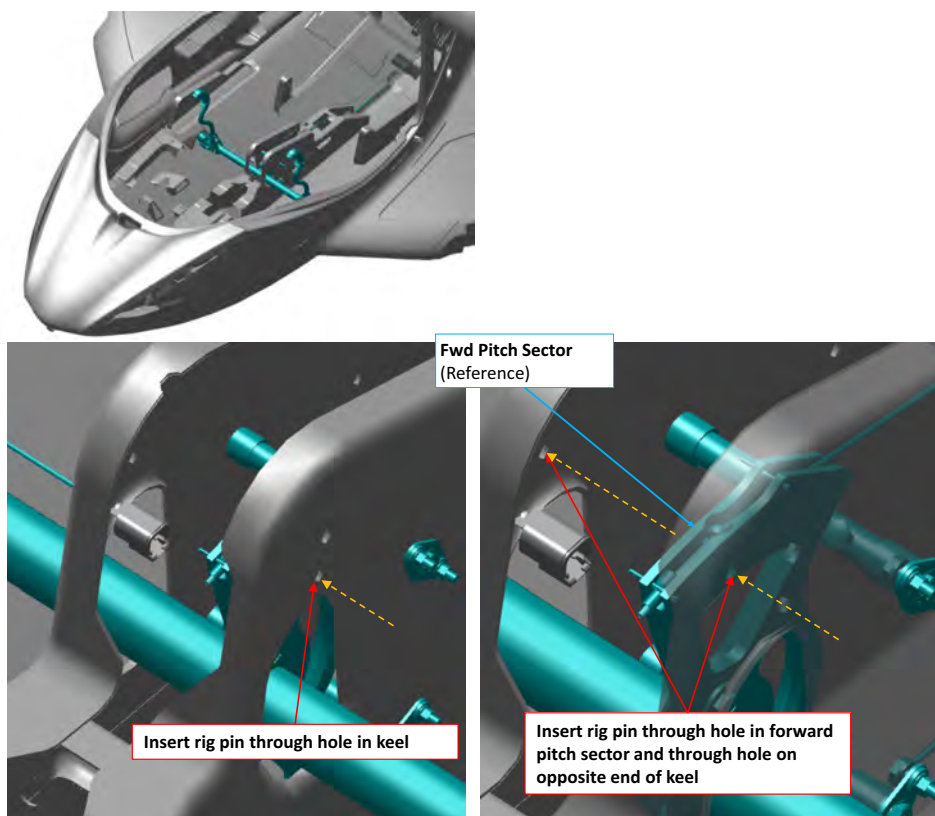

FIGURE 9-14
7. Install .250" diameter rig pin through the center console and forward pitch sector prior. See Figure 9-14.